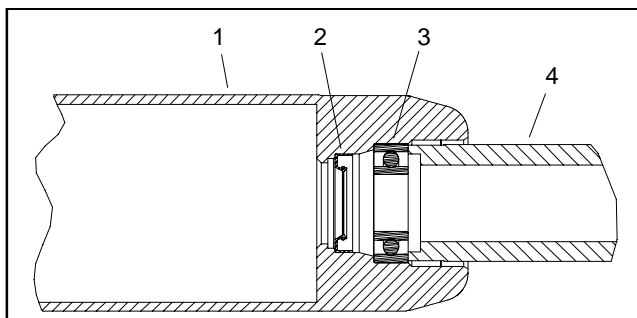

Figure 13
A. Position a new bearing into one end of roller tube. Use bearing/outer seal tool (see Special Tools in this chapter) with a soft face hammer to fully seat bearing against roller shoulder (Fig. 13). After bearing installation, make sure that it rotates freely with no binding.